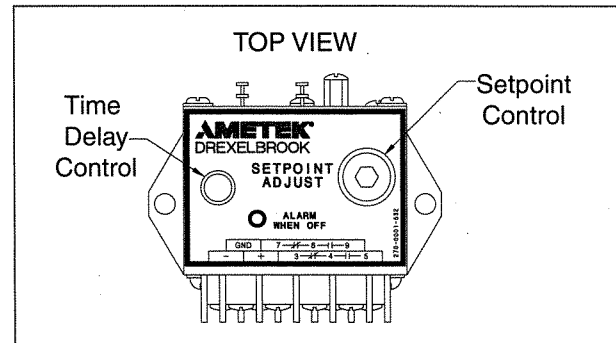

FIGURE 5-2
The optional time delay adjustment is located on top of the instrument, across from the setpoint adjustment. See Figure 5-2. It is used to help stop an oscillating relay output due to agitation or frothing in the vessel. The standard time delay is
- A.** Turn the time delay adjustment to the extreme counterclockwise position (i.e. minimum time delay). See Figure 5-2.